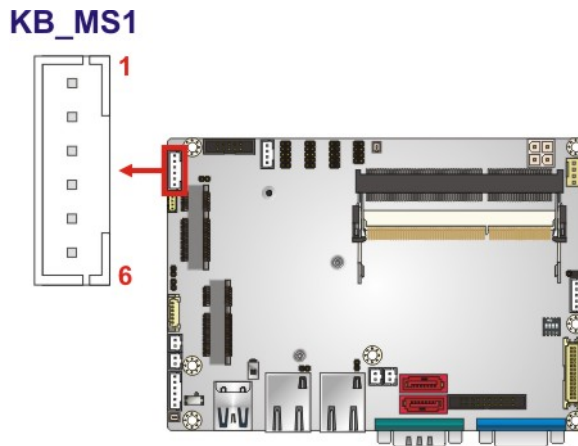

Figure 3-13: Keyboard and Mouse Connector Location
- CN Location:** See **Figure 3-13**